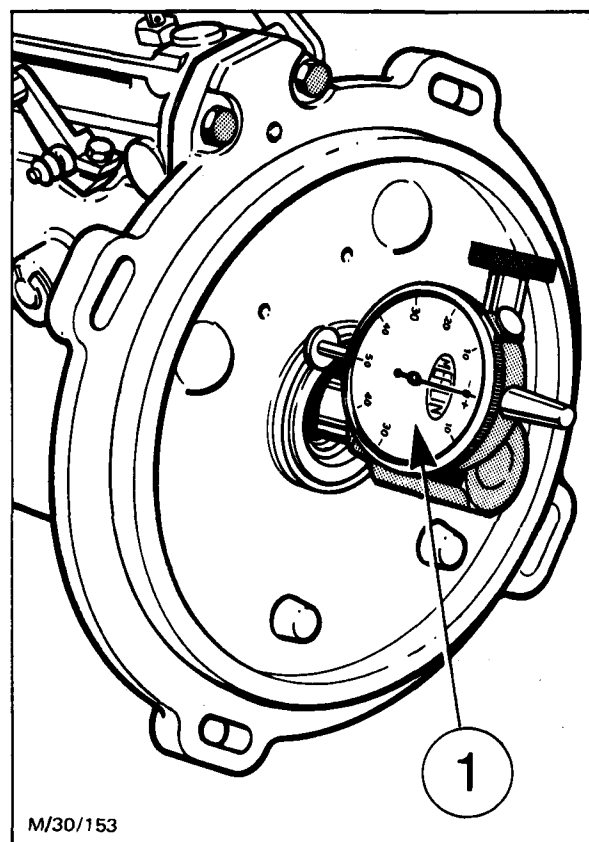

Fig. 72 - Measuring the Camshaft End Float (Dorset)
4. Fit the camshaft end float adaptor and dial indicator gauge assembly (TOOL NOS. CT 9017 and 9017-1) to the drive end of the camshaft. Pack the joint between the adaptor and dial gauge where necessary to ensure the dial gauge anvil rests squarely on the flat surface of the front mounting flange (Fig. 72).